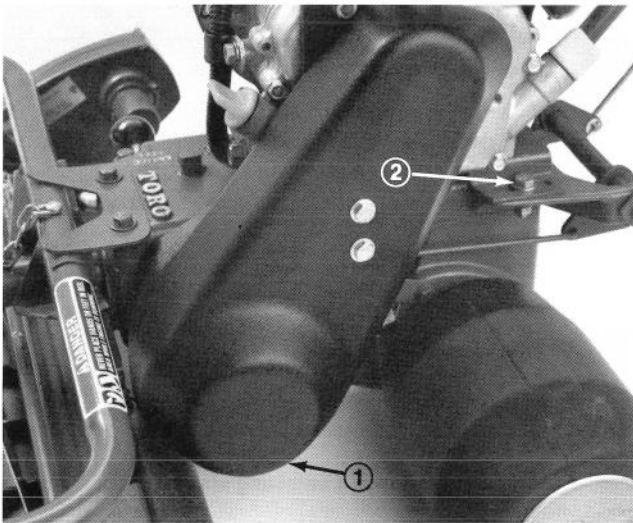

Figure 38
1. Remove belt cover from left side of machine (Fig. 38).
4. Continue adjustment until tension is correct and install belt guard (Fig. 38).